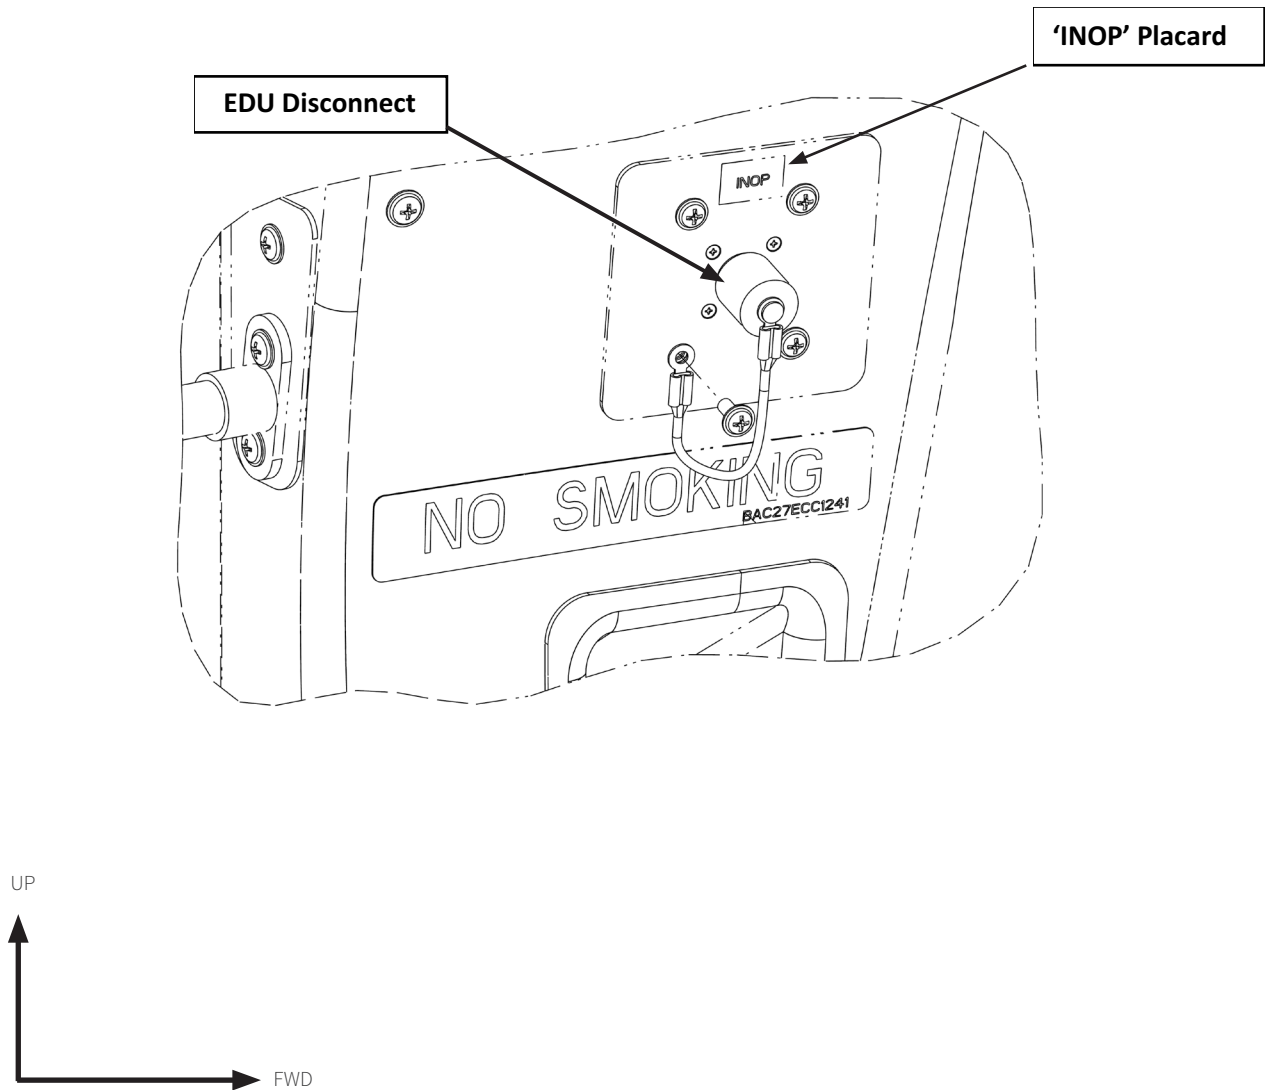

Figure B3: Captain's EFB Power Control Panel Installation (First Officer's Side is a Mirror Image)
- » The connector protective cover and INOP placard on the captain's EDU sidewall disconnect will be removed for activation and the EDU mount assembly coiled cord will be connected. See Figure B3. The first officer's installation is a mirror image.